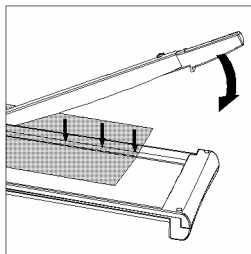

Fig. 2
- 4 Place the material to be cut in the required position under the pressing rail and press the pressing rail down (Fig. 2).
- 5 Then use your other hand to move the guillotine arm down and cut the document (Fig. 2).